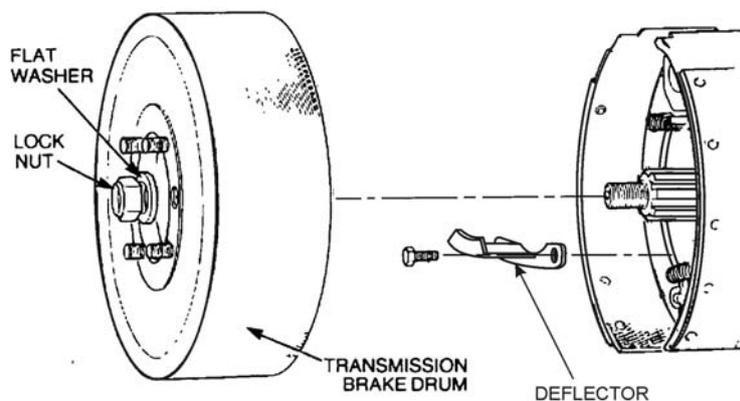

Figure 64 Output Shaft Cover Oil Seal Removal (Intermediate Axle)
- d. Remove the locknut, flat washer and felt seal (Figure 64). Discard the locknut and felt seal.